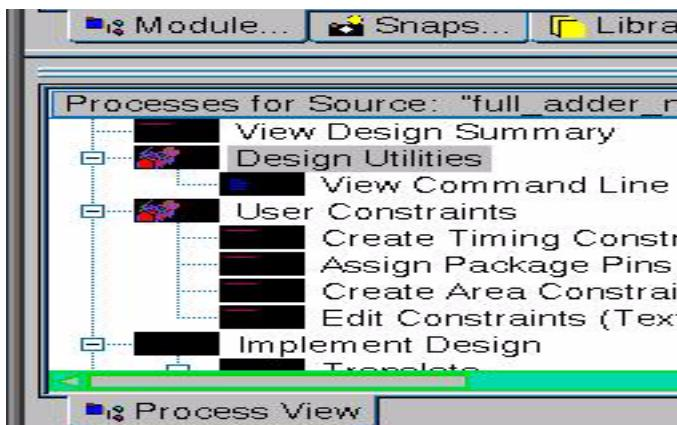

Figure 27: Process including Implement Design.
(8) Select the **full_adder_negated.edf** file (the file listed beneath xc2vp30-7ff896). You will now note that the **Processes for Source: “xc2vp30-7ff896”** have changed to include the “Implement Design” as shown in Figure 27.